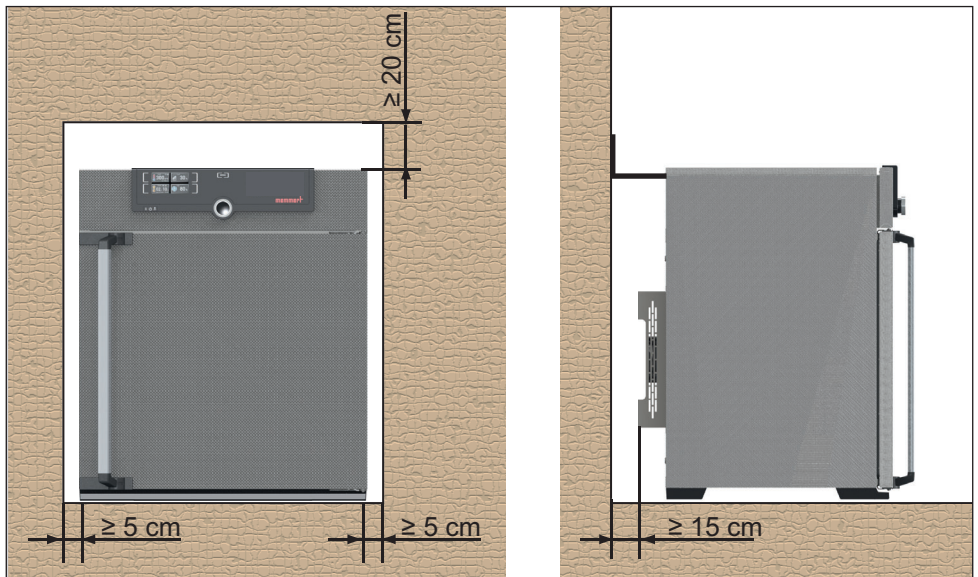

Fig. 7 Minimum clearance from walls and ceiling
The distance between the wall and the rear of the appliance must be at least 15 cm. The clearance from the ceiling must not be less than 20 cm and the side clearance from walls or nearby appliances must not be less than 5 cm (Fig. 7). Sufficient air circulation in the vicinity of the appliance must be guaranteed at all times.
2. Bend the tilt protection upwards by  $90^\circ$  in the desired distance to the wall (consider the minimum distance to the wall, see Fig. 7).